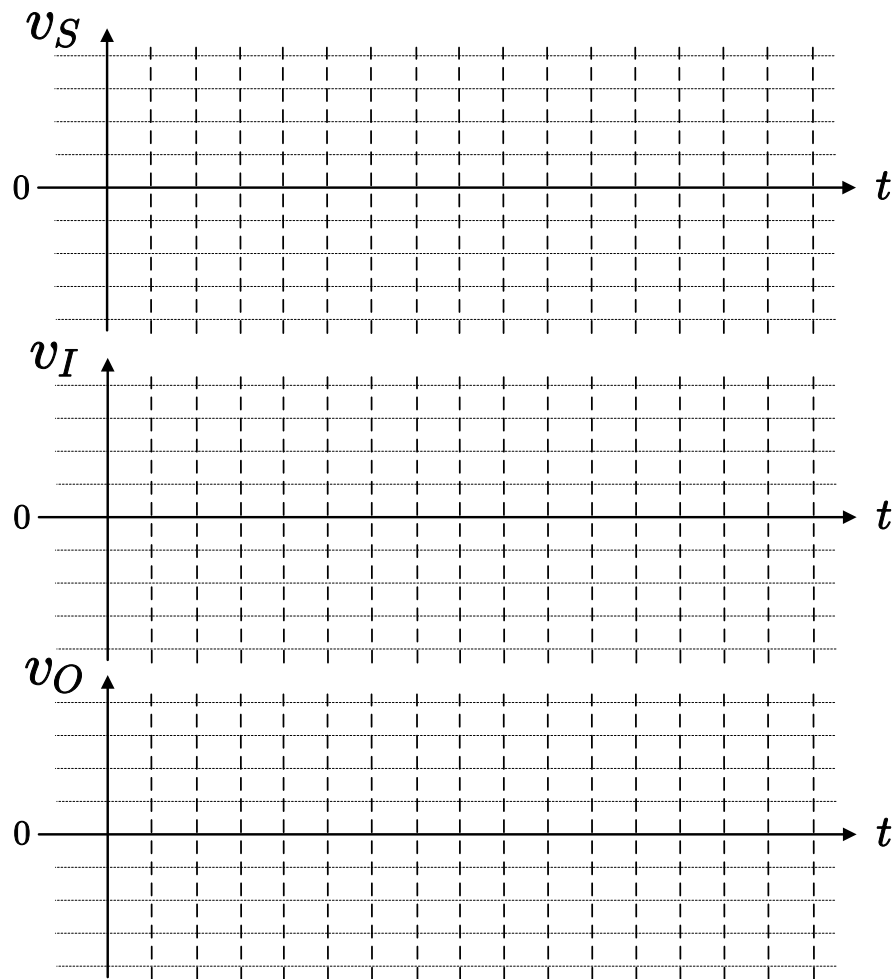

**Figure 2.** Common-Emitter (CE) amplifier of Figure 1 driving a buffered load.
P2. Now consider the two-stage amplifier of **Figure 2**, in which the **CE amplifier** of **Figure 1** is not directly connected to the load, but it **drives the load through a Common-Collector (CC) amplifier**. Thus, **the CC amplifier acts as a buffer** between the CE amplifier and the load. That is, it makes the load appear much larger to the CE amplifier, to not bring down the output voltage of the CE amplifier, while its own voltage gain is close to (albeit smaller than) unity. Then, repeat the analysis of **Step P1** for the amplifier chain of **Figure 2**. Assume the same parameters as those you assumed in **Step P1**, with the addition that  $R_{E3} = 1.2\text{ k}\Omega$ . Complete **Table P2**. Show all the work.
**Table P2.** Quiescent and AC parameters of the two-stage amplifier of **Figure 2**.
P3. Simulate the CE-CC two-stage amplifier of **Figure 2**, assuming the 2N3904 as the transistors,  $V_{CC} = 15\text{ V}$ ,  $R_S = 50\ \Omega$ ,  $C_1 = 10\ \mu\text{F}$ , and  $C_2 = C_3 = 100\ \mu\text{F}$ . Also, assume  $v_S$  to be a **1-kHz symmetrical sinusoidal voltage**. However, choose its magnitude in such a way that, with no load (for the purpose of simulation, use  $R_L = 100\text{ k}\Omega$  as an infinite load resistance),  $v_O$  has a peak-to-peak swing of 2.0 volts. Then, present the waveforms of  $v_S$ ,  $v_I$ , and  $v_O$ , for three cycles, for  $R_L = 100\text{ k}\Omega$ , as **Graph P3(a)**. Next, repeat the simulations but with  $R_L = 180\ \Omega$ , and present the waveforms as **Graph P3(b)**. In both simulations, make sure that  $v_I$  and  $v_O$  are in-phase (in terms of their zero-crossings). Otherwise, check your simulation model and parameters. Also, verify that your manual calculations of the gains (reported in **Table P2**) agree well with the gains indicated by the simulated waveforms. Otherwise, check your calculations and/or your simulation model.
**Graph P3(a).** Source, input, and output voltage waveforms of the amplifier of Figure 2, with  $R_S = 50\ \Omega$  and  $R_L = 100\text{ k}\Omega$ .
**Graph P3(b). Source, input, and output voltage waveforms of the amplifier of Figure 2, with  $R_S = 50\ \Omega$  and  $R_L = 180\ \Omega$ .**
E1. Construct the circuit of **Figure 3**, which is the circuit of **Figure 2** but divided into three sub-circuits, namely, the CE amplifier, the CC amplifier, and the load. Thus, it can be configured to either represent the CE amplifier of **Figure 1** or the two-stage amplifier of **Figure 2**.
**Table E1.** Quiescent parameters of CE amp. of **Figure 1** and two-stage amp. of **Figure 2**.
Two-Stage ( Figure 2 )	K-L
E3. Now, **remove** K-N jumper, but **establish** K-L jumper. Repeat the AC voltage measurements, and complete **Table E3(a)**. This configuration corresponds to no-load operation of the two-stage amplifier of **Figure 2**. Again, make sure that  $v_i$  is unchanged with respect to its value in **Table E2(a)**, and that the voltages are sinusoidal.
**Table E3(a).** No-load AC voltages and gain of the two-stage amplifier of **Figure 2**.
Next, also establish the **M-N** jumper, repeat the measurements (**Note:**  $R_L = 180 \Omega$ ), and complete **Table E3(b)**. Once again, make sure that  $v_i$  is unchanged with respect to its value in **Table E2(a)** and that the voltages are sinusoidal. Further, capture the waveforms of  $v_i$  and  $v_o$  for three cycles, and save the captured waveforms as **Graph E3**. Note that this experiment corresponds to loaded operation of the two-stage amplifier of **Figure 2**.
**Table E3(b).** Loaded AC voltages and gain of the two-stage amplifier of **Figure 2**.
Repeat the comparison for the two-stage amplifier of **Figure 2**, and complete **Table C1(b)**. Comment on the magnitude of errors, and provide reasons for discrepancies, if any.
**Table C1(b).** Calculated and measured (DC) voltages of the two-stage amplifier of **Figure 2**.
- C2. Compare the calculated and measured voltage gains of the CE amplifier of **Figure 1**, and calculate the percent errors. Complete **Table C2(a)**. Repeat the analysis for the two-stage amplifier of **Figure 2**, and complete **Table C2(b)**. Comment on the magnitudes of errors and provide reasons for discrepancies.
**Table C2(b).** Calculated and measured voltage gains of the two-stage amplifier of **Figure 2**.
- C3. Based on the measured and calculated results, explain how the CC stage (that is the buffer) in the two-stage amplifier has enabled us to drive a heavy load ( $R_L = 180\ \Omega$ ) while maintaining a good overall voltage gain. Give your viewpoint another angle by calculating the resistance that the CC stage presents to the output of the CE stage in the two-stage amplifier of **Figure 2** (that is  $R_{i2}$ ) both with and without the load, and comparing it with  $R_L$  (that is, the load that the CE amplifier of **Figure 1** sees).
**Table E1.** Quiescent parameters of CE amp. of Figure 1 and two-stage amp. of Figure 2.
Two-Stage (Figure 2)	K-L
**Table E3(a).** No-load AC voltages and gain of the two-stage amplifier of Figure 2.
**Table E3(b).** Loaded AC voltages and gain of the two-stage amplifier of Figure 2.